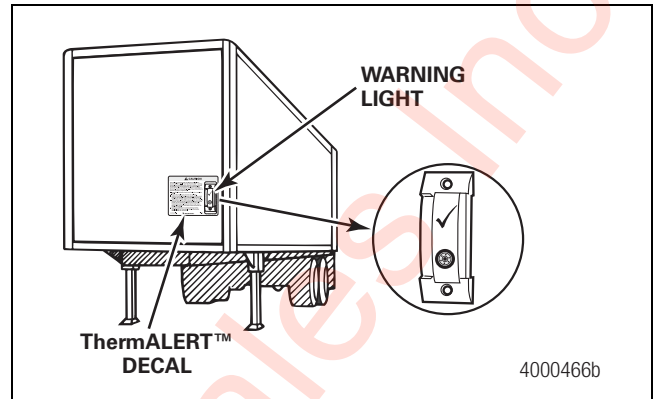

Figure 2.67
3. Mount the warning light vertically onto the roadside front of the trailer, approximately 30-inches (76 cm) from the bottom of the coupler and as close as possible to the outside of the trailer. The driver should be able to see the warning light from the roadside rear view mirror. Figure 2.67.